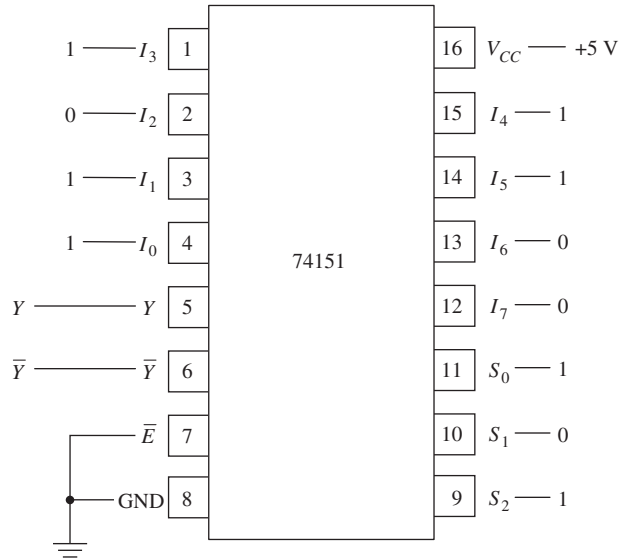

Figure P24
24. The connections shown in Figure P24 are made to the 74151 8-line multiplexer.